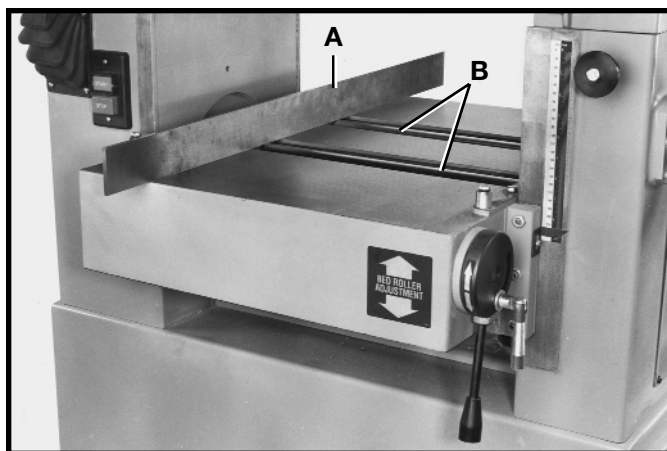

Fig. 22
2. With the table rollers in the lowest position, lay a straight edge (A) Fig. 22, across both table rollers (B) on the left side of the table as shown.